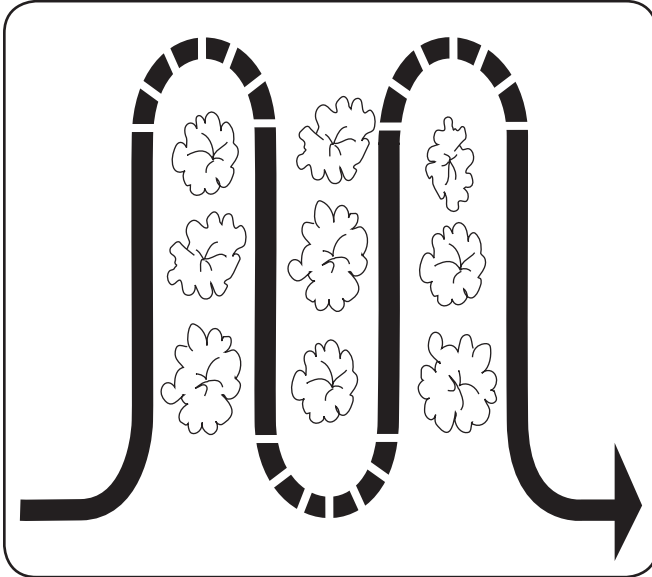

**Figure 5-3**
- When cultivating (breaking up the surface soil around the plants to destroy weeds, see Figure 5-3), adjust the tines to dig only 1" to 2" deep. Using the shallow tilling depth helps prevent injury to the plants whose roots often grow close to the surface. If needed, lift up on the handlebars slightly to prevent the tines from digging too deeply. (Cultivating on a regular basis not only eliminates weeds, it also loosens and aerates the soil for better moisture absorption and faster plant growth.) Watering the garden area a few days prior to tilling will make tilling easier, as will letting the newly worked soil set for a day or two before making a final, deep tilling pass.